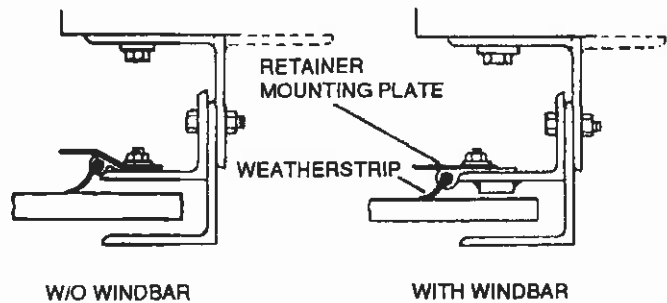

FIGURE 1
2. Attach weatherstrip and retainer mounting plate (if necessary) to guide angle studs with flat washers and nuts. See Figure 1.